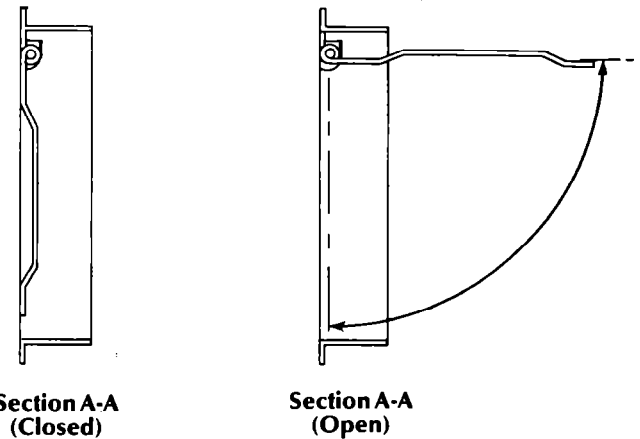

Figure 14a
2. Connect the Backdraft Damper assy. to the horizontal duct. Insure that Backdraft Damper plate is allowed to move freely. (See Fig. 14a).